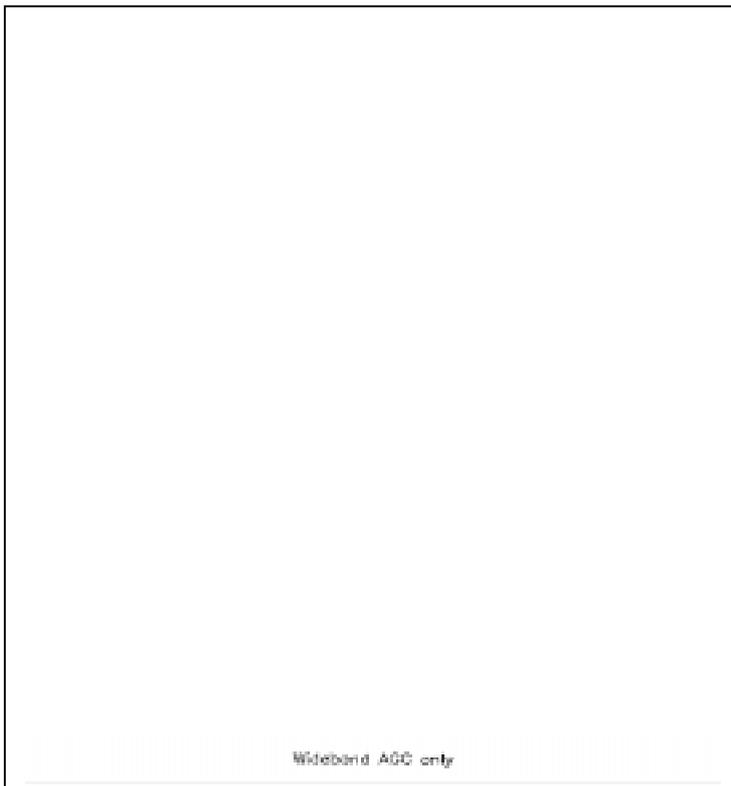

Fig 17b Wideband AGC
- Then the wideband agc is fixed and larger signals cannot drive the weak signal further into noise (see Fig 17b.).